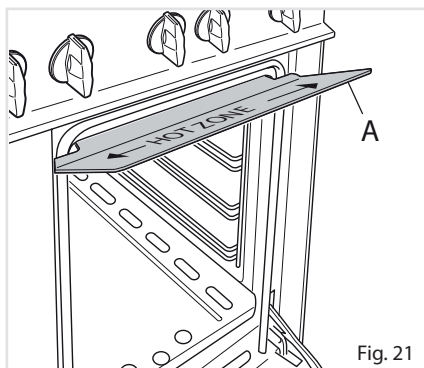

Fig. 21
Always fit the heat shield supplied with the cooker under the front panel before commencing operations (Fig. 21).
Very important: the grill must always be used with the oven door slightly open and with shield "A" mounted (Fig. 21).
- It is important that the heat shield is fitted the correct way up, as shown in the figure 21.
Very important: the rotisserie must always be used with the oven door ajar and with shield "A" mounted (Fig. 21).